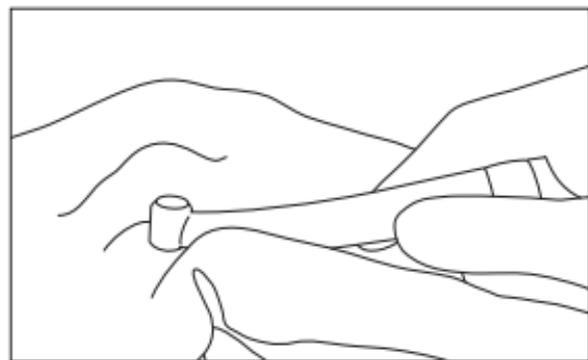

Fig. 11
2) Wipe the exterior of the handpiece clean using a cloth moistened with disinfectant or ethanol with a concentration of 60-90% (Fig. 11).